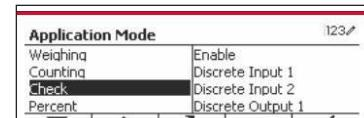

Figure 62
2. With the button corresponding to the  icon, go down the list and highlight Application Mode. Enter this submenu by pressing the button corresponding to the  icon. (See Figure 62)